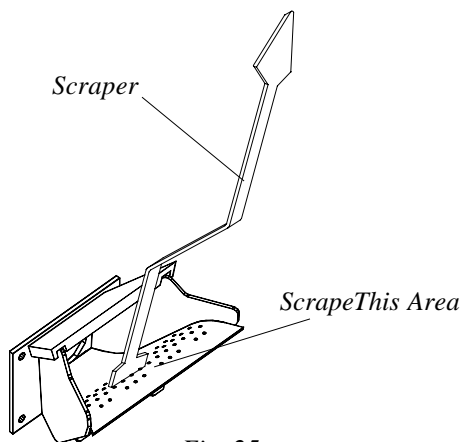

Fig. 25
1. Clean the heat exchanger with the scraper provided. See Figure 25.